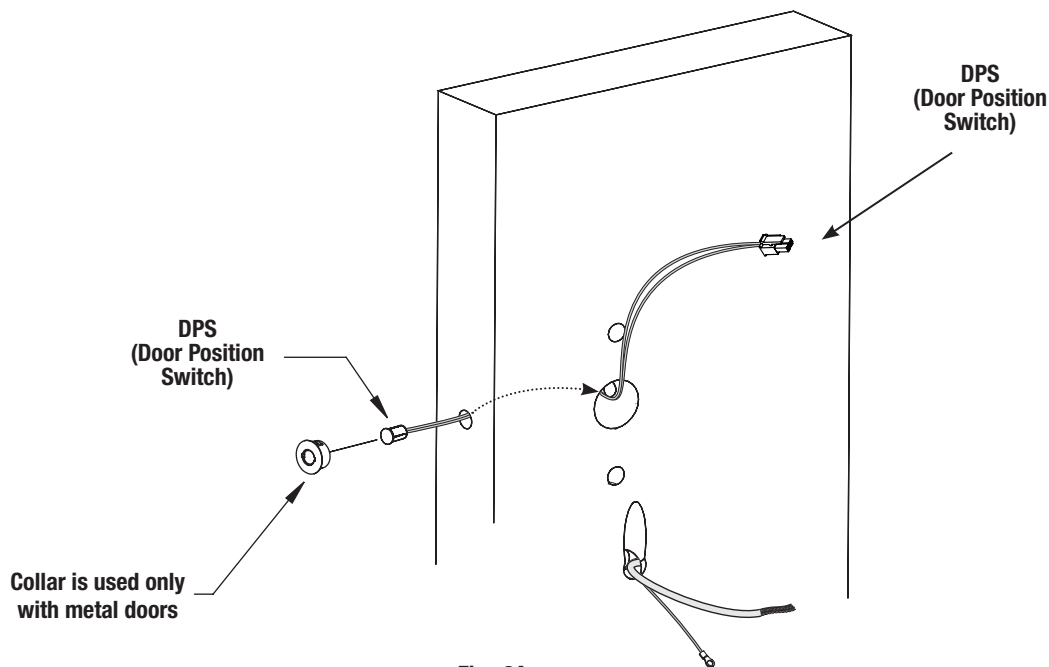

Fig. 2A
1. Insert connector end of DPS through the raceway on the latch edge of the door (Fig. 2A).